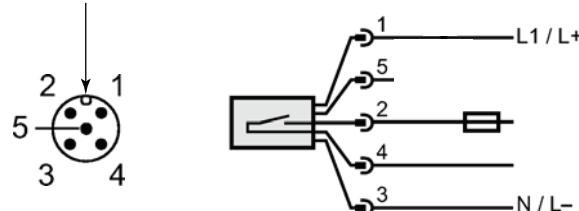

Fig. 1 — Flow Switch
This accessory condenser flow switch may be used on 30MPW017-080 liquid cooled chillers. The flow switch (see Fig. 1) is a thermal dispersion switch with a normally open contact that closes on velocity above 0.66 fps (20 cm/s).
3. Install flow switch with thread sealant. Be careful not to overtighten. See Fig. 1 for flow switch orientation.
1. Connect the cable to the flow switch. Note the position of the orientation tab on the cable and switch before hand tightening. Refer to Fig. 1 and 6 for orientation tab.